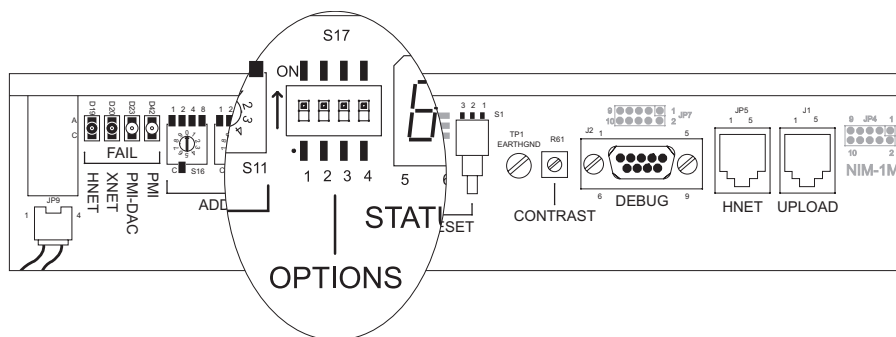

Figure 3
1. Restore power/battery to the PMI in the firmware upgrade mode. To enter this mode, place DIP switch #2 on the options DIP switch (located at the bottom edge of the PMI) in the ON position. (Refer to Figure 3.)